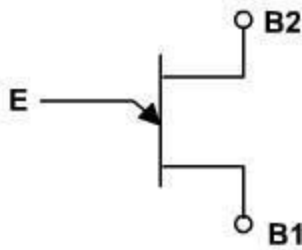
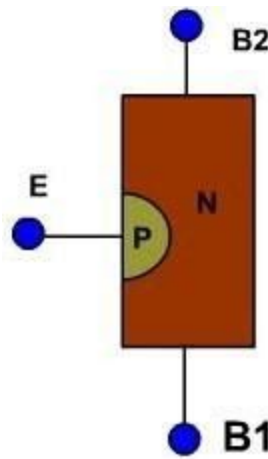

Fig. 1
Fig. 2
The symbol for UJT is shown in **fig. 1**. The UJT has three terminals base1 (B1), base2 (B2) and emitter (E). The UJT is made up of an N-type silicon bar which acts as the base as shown in **fig. 2**. It is very lightly doped. A P-type impurity is introduced into the base, producing a single PN junction called emitter. The PN junction exhibits the properties of a conventional diode.